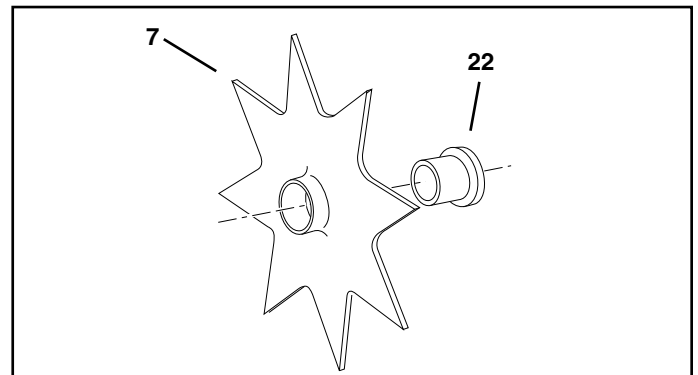

FIGURE 13
- Push a flanged bearing (22) into each of the eight spike disks (7), from the side shown in figure 13.